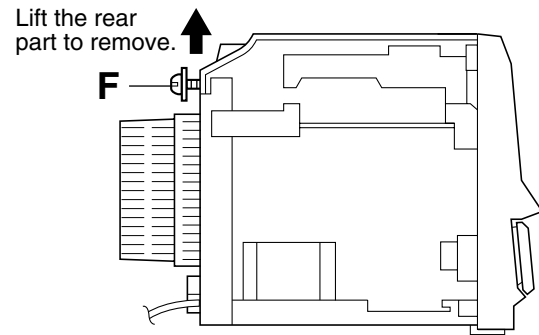

Fig.9
- 2. Lift the rear part of the top cabinet to remove it. (See Fig.9.)